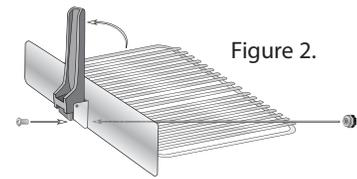

Figure 2.
- Step 5: Rotate handle and food rack cover towards you together as a single unit (Figure 2).